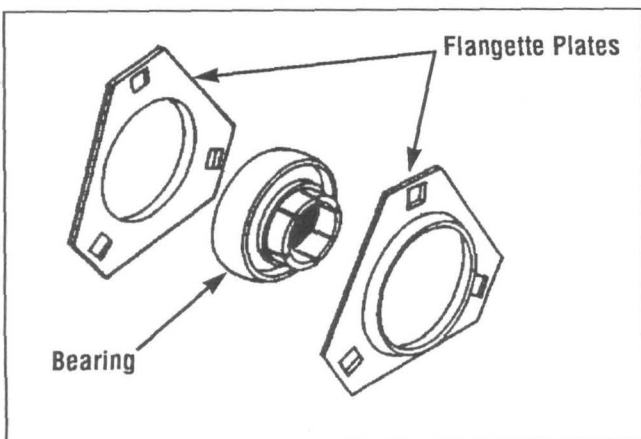

Fig. 13
B. Insert the slotted sleeve of the bearing into the recessed bore of one of the flangette plates (see Fig. 13).
C. Place the second flangette over the flat side of the bearing, with the lip of the flangette facing outward (see Fig. 13).